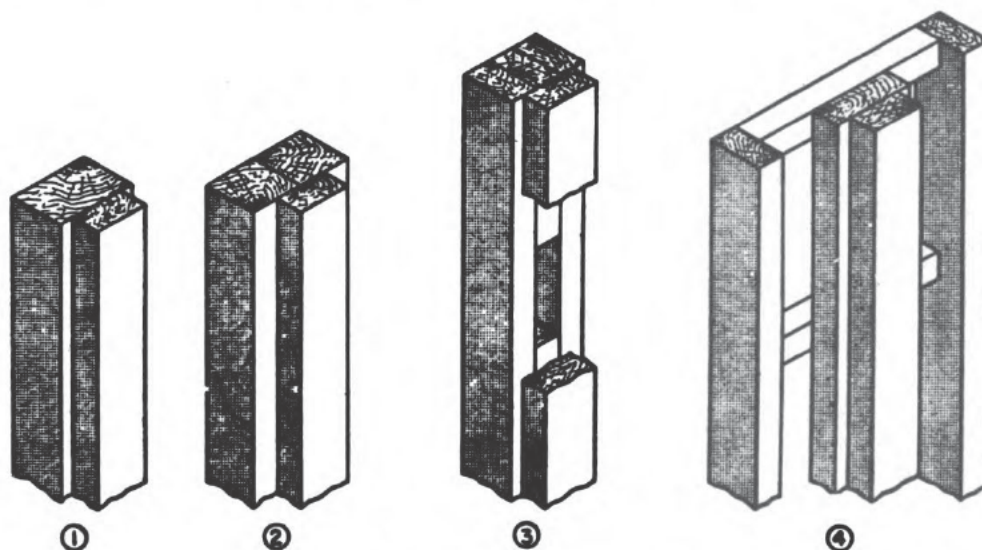

Figure 13-16.—T-post construction.
to extend beyond the partition on both sides so as to furnish a solid nailing base for the interior wall finish. The T-post may be made in four different ways (see figure 13-16) :
In cases where partition walls cross, you should use a double T-post. By referring to figure 13-17, you'll see that these double T-posts are made simply by nailing another 2 x 4 to the opposite wide side of T-posts, made by methods (1), (2), or (3) in figure 13-16.